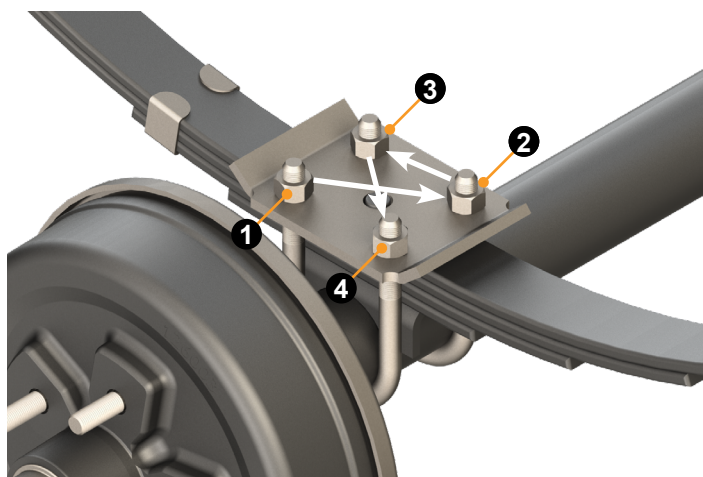

Fig.7
5. Progressively tighten tie (spring) plate nuts in a criss-cross pattern in the order given (Fig.7) until the final torque is obtained. Refer to Spring axle torque specifications chart for bolt torque requirements.